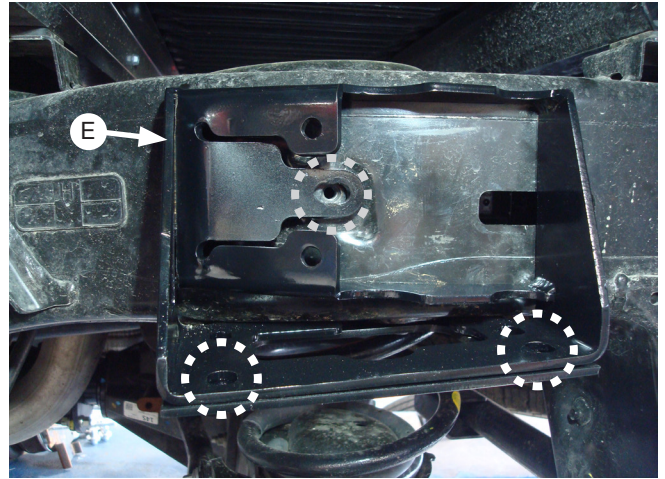

Fig. 9
- The M8 screws from the previous step are almost ready to be tightened down. First, the upper brace is needed to make sure the frame plate is aligned. Place the upper brace (E or F, depending on the side) on top of the frame plate (Fig. 9). Move them around slightly until you get the frame hole aligned (circled in gray) and the brace holes aligned with the upper frame holes (C) (circled in white). Once they are aligned, tighten the two M8 screws (P) down to 18 lb.-ft. (24Nm) with a 5mm hex tool. Remove the upper brace (E or F).